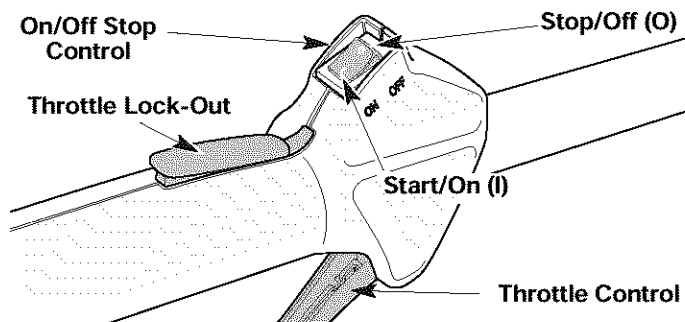

Fig. 6
2. Make sure the On/Off Stop Control is in the **ON (I)** position (Fig. 6).
2. Push and hold the On/Off Stop Control in the **OFF (O)** position of 3 seconds or until the engine stops running (Fig. 6).